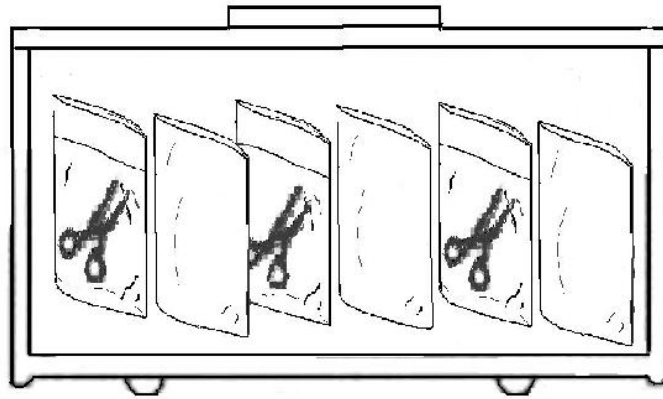

Figure 29
**Warning:** If implements are packed with sterilizing pouches and placed inside a sterilization box, make sure to display items as Figure 29.